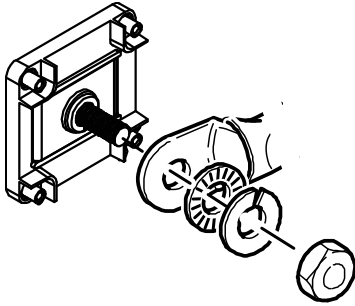

Figure 8 DC Cable Connections
Use only appropriately sized copper cable. Loose connections, improper connections, and under-rated cables will overheat. Make sure the bolts supplied by Xantrex on the inverter/charger are tightened to a torque of 15–16 ft-lbs (20.4–21.7 Nm). Torque all other connections to the manufacturer’s specifications. Make sure the DC cable, washers, and bolt are assembled in the order shown in Figure 8.
4. Connect one connector on the POSITIVE (+) cable to the POSITIVE DC terminal on the inverter/charger, as shown in Figure 8. The connector goes on first, then the flat washer (steel), lock washer (steel), and 3/8" bolt (brass).
6. Connect one connector on the NEGATIVE (–) cable to the NEGATIVE (–) DC terminal on the inverter/charger, as shown in Figure 8. The connector goes on first, then the flat washer (steel), lock washer (steel), and 3/8" bolt (brass).